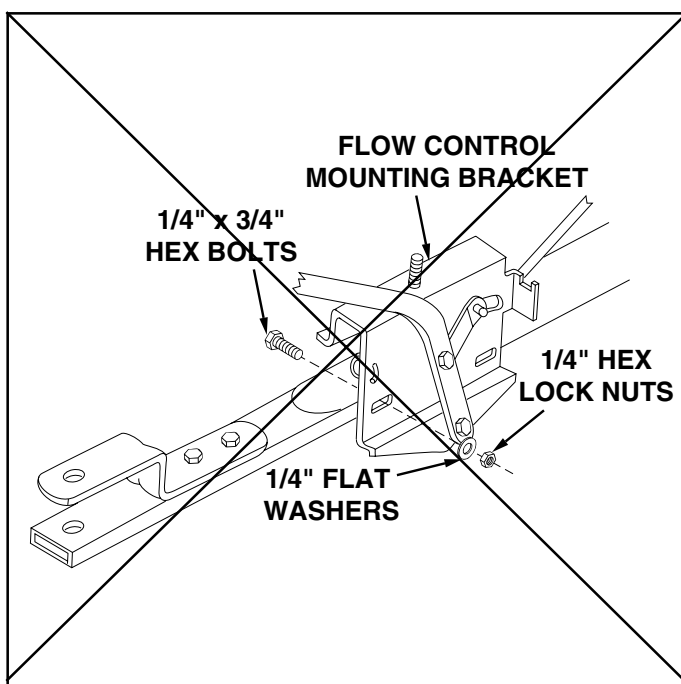

FIGURE 13
19. Assemble flow control mounting bracket to the hitch tube using two 1/4" x 1-3/4" hex bolts, two 1/4" flat washers and two 1/4" hex lock nuts. See figure 13. **DO NOT TIGHTEN AT THIS TIME.**